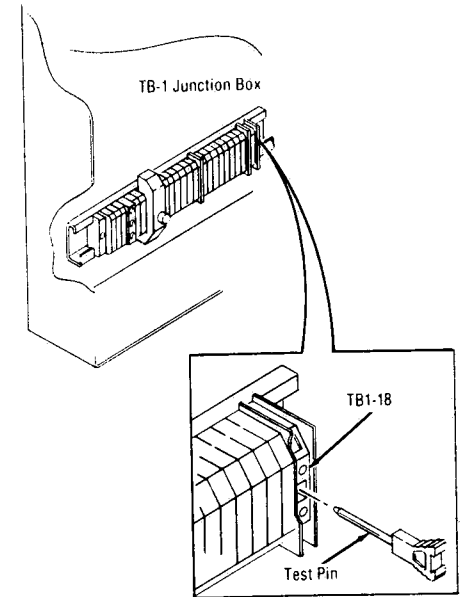

Figure 5-8. INSERTION OF TEST PIN FOR SERVICE ROUTINE.
5. Insert test pin into junction box at TB1-18, as indicated in Figure 5-8.